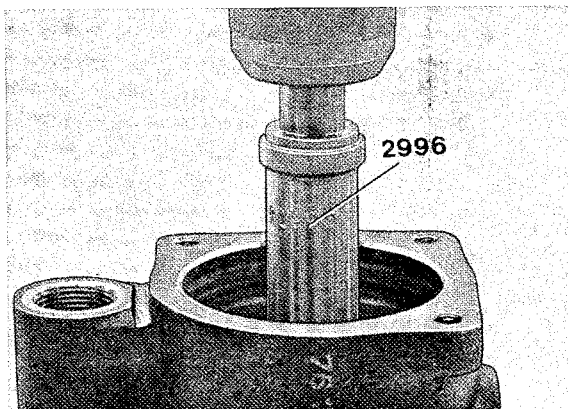

Fig. 6-97. Removing sealing ring
7. Press the plate (14) out of the housing. The intermediate piece, if not removed, should accompany the plate.
8. Screw out the plug (23) and shake out the spring (26) and piston (27).
9. Press out the needle bearing (9) and sealing ring (8) together with tool 2996, see Fig. 6-97.